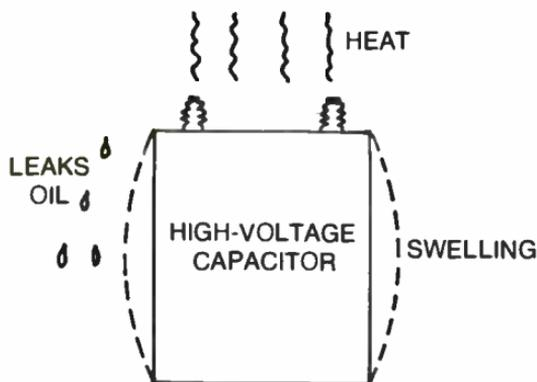

Fig. 9-14. Signs of high-voltage capacitors going bad. They may leak oil, swell, get hot, or all three.
**High-Voltage Capacitors**—High voltage capacitors are usually filled with a special mineral oil for insulation. When this is beginning to break down or go bad, the capacitor may leak oil, get hot, or swell, or all three (Fig. 9-14). Immediately after turnoff, feel these capacitors. They may be warm from